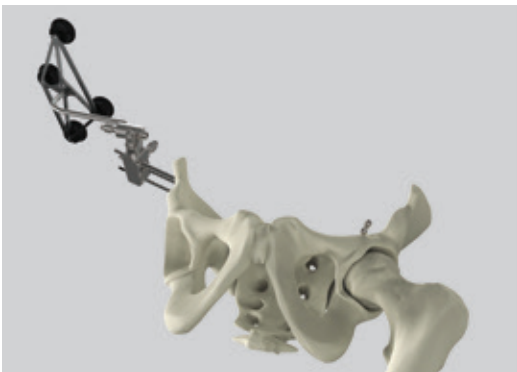

Figure 2
- 2a. Prior to draping the patient, place EKG lead on inferior pole of the patient's patella and then proceed to drape the patient. Insert the first pin for the pelvic array in the non-operative iliac crest 1-2 finger breadths from the most prominent point of the ASIS. Using the 3-pin clamp as a guide, place the second and third pin, and attach the pelvic array (Figure 2). Perform incision and insert proximal femoral and pelvic checkpoints.